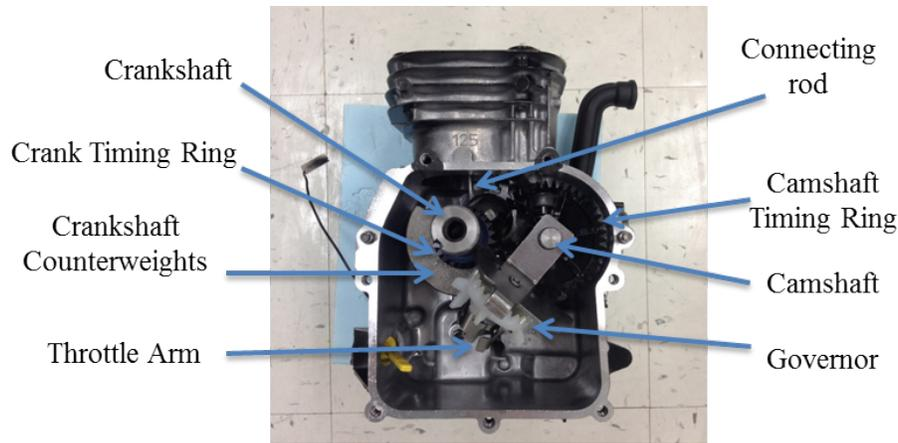

Figure 6: inside the crank case
25. Identify the crankshaft, the camshaft, and the governor (Figure 6).